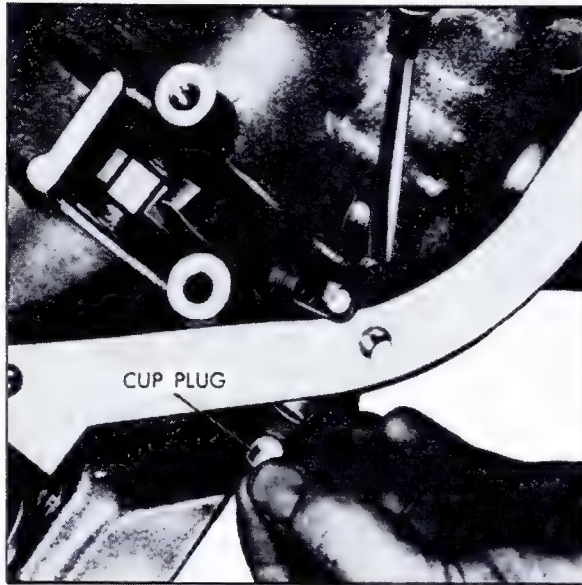

Fig. 7-53 Removing Cup Plug
8. Remove parking brake pawl shaft cup plug by placing screwdriver between parking pawl shaft and case rib and prying outward, Fig. 7-53.